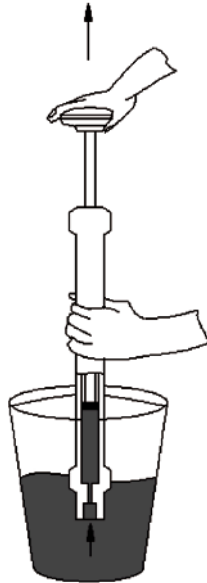

Figure 4-3 Filling the plunger
1. The pressurizing plunger is similar to a syringe. Fill the plunger by submerging the nose of the plunger into the fluid (Figure 4-3). Then, pull the piston rod upward to fill the plunger.